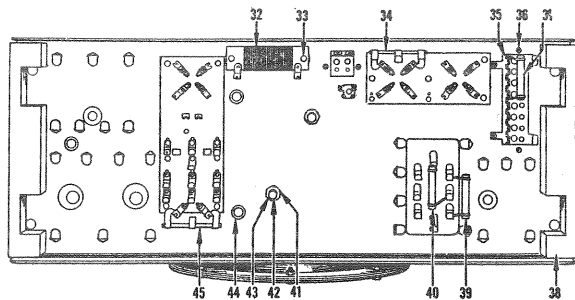

Fig. 4—Bottom View of Amplifier-Speaker Unit, showing parts.
- Open or shorted center tap resistor in amplifier unit. (Shown at 34 and 45, Fig. 4.)